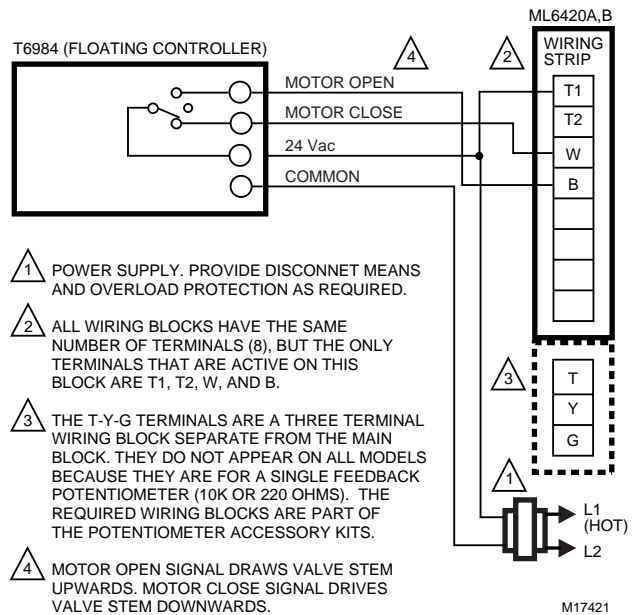

Fig. 6. ML6420 wiring.
All wiring must comply with local electrical codes, ordinances and regulations. Voltage and frequency of the transformer used with the actuator must correspond with the power supply and actuator characteristics. See Fig. 6 through 11 for typical wiring hookups.
2. Using the wiring diagram in Fig. 6, connect power and control wires. Make sure that all wiring is correct.